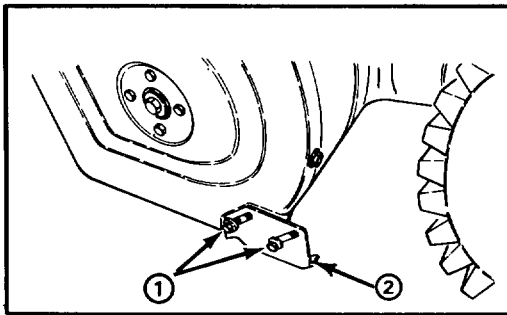

Figure 18
## ADJUSTING SKIDS (Fig. 18)
2. Loosen the (4) flange bolts securing both skids to the auger side plates (Fig. 18).